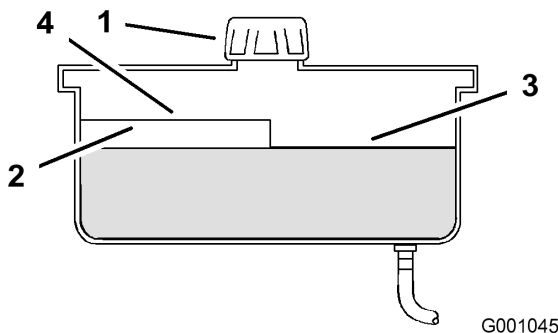

Figure 51
4. Clean area around cap and filler neck of hydraulic tank (Figure 51).
5. Remove cap from filler neck. Look inside to check if there is fluid in the reservoir. (Figure 51).
Note: The fluid level should be to the top of the hot level of the baffle, when the fluid is warm (Figure 51).